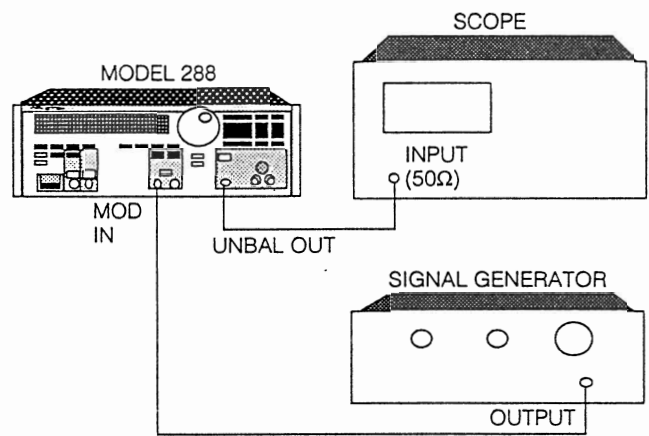

Figure 2-6 AM Verification
2. Connect the Model 288 and test equipment as shown in figure 2-6.